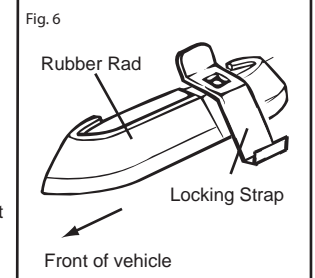

Fig. 7
8. Loosely fit Special Bolt through End Support and into the Straps. Give two to three turns of Special Bolt in Locking Strap with Security Key provided. Go to the other side of the vehicle and pull on the End Support and fit the same. This will allow correct alignment of Locking Straps and Special Bolt thread (Fig.7).